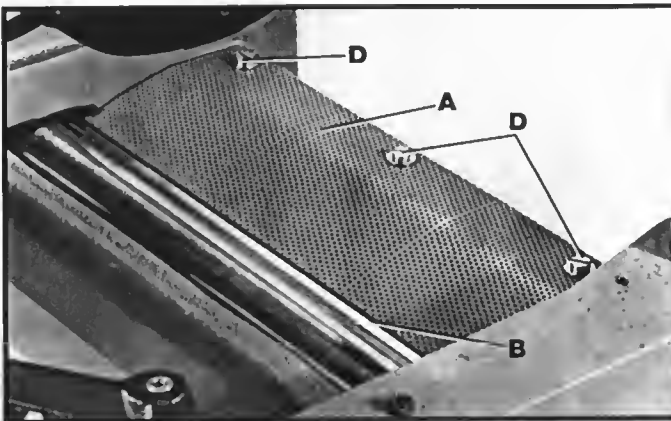

Fig. 42
The chip deflector (A) Fig. 42, is located on the rear of the planer and should be adjusted so the edge (B) of the chip deflector is $1/16''$ away from the knives. Loosen screws (D) adjust chip deflector (A) and tighten screws (D).